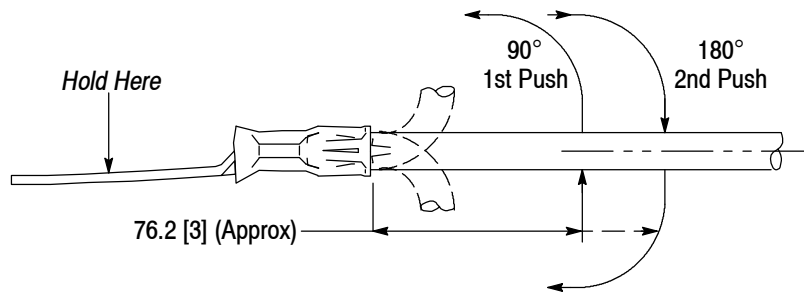

Figure 6
2. Hold the terminal, splice, or end cap in one hand. Use the side of one finger on the other hand at approximately 76 [3] to push the wire up 90° and down 180°, one time each. Refer to Figure 6.